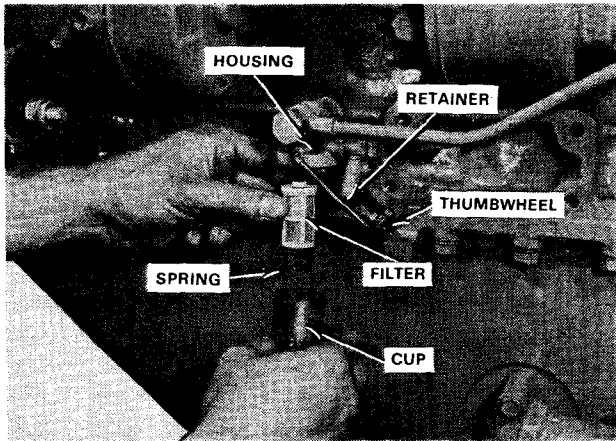

FIG. 25 Removing Sediment Cup Filter (SSD-655)
2. Loosen the thumbwheel on the filter cup retainer and swing the retainer away from the cup. Remove the cup from the filter housing (Fig. 25).